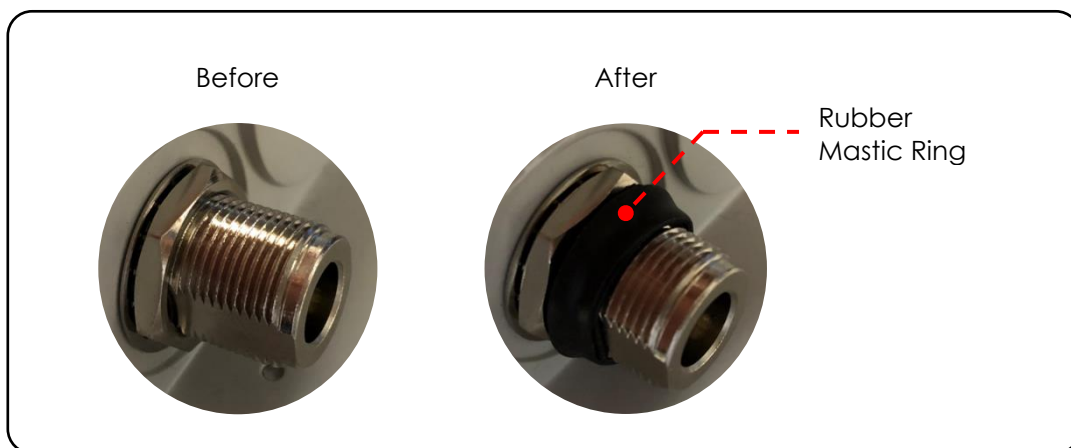

Figure 10-11 Rubber Mastic Ring around the Base of RF Port
2. Wrap the strip around the base of each RF port in the clockwise direction as shown in Figure 10-11. Take extra care to make sure that the rubber ring would not hinder the subsequent tightening of the RF connector around the antenna port.